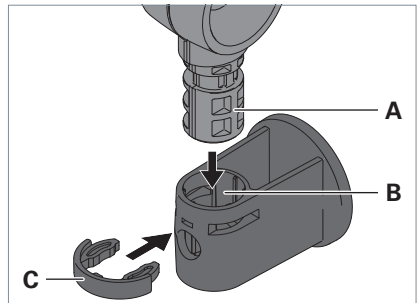

Fig. 6: Mounting a luminaire on an adaptor.
- ▶ Insert the stud **A** on the luminaire column into the opening **B** of the adaptor, see Fig. 6.